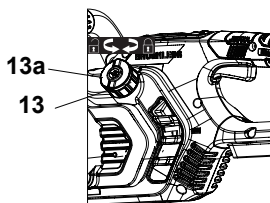

Fig.9
1. Place the product on a stable, level surface with the oil tank cap (13) facing upward. We recommend laying a non-flammable sheet under the product.
2. Lift the hand ring (13a) and hold it with fingers, then unscrew and remove the oil tank cap (13) (Fig. 9).